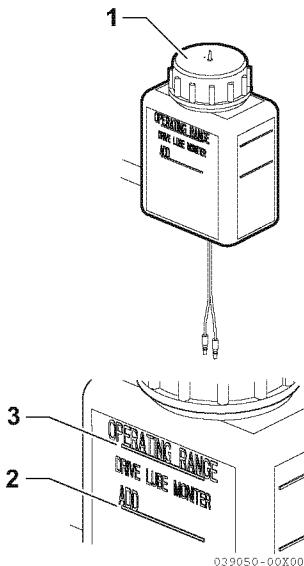

Figure 2
1. Check the stern-drive oil level (**Figure 2**). Keep the oil level at or near the OPERATING RANGE (full) line (3, **Figure 2**) on the oil reservoir (1, **Figure 2**).
2. The oil level is low if it is below the ADD line (2, **Figure 2**) on the oil reservoir (1, **Figure 2**). Fill as needed with the specified oil. See *Fill the stern-drive with oil on page 26*.